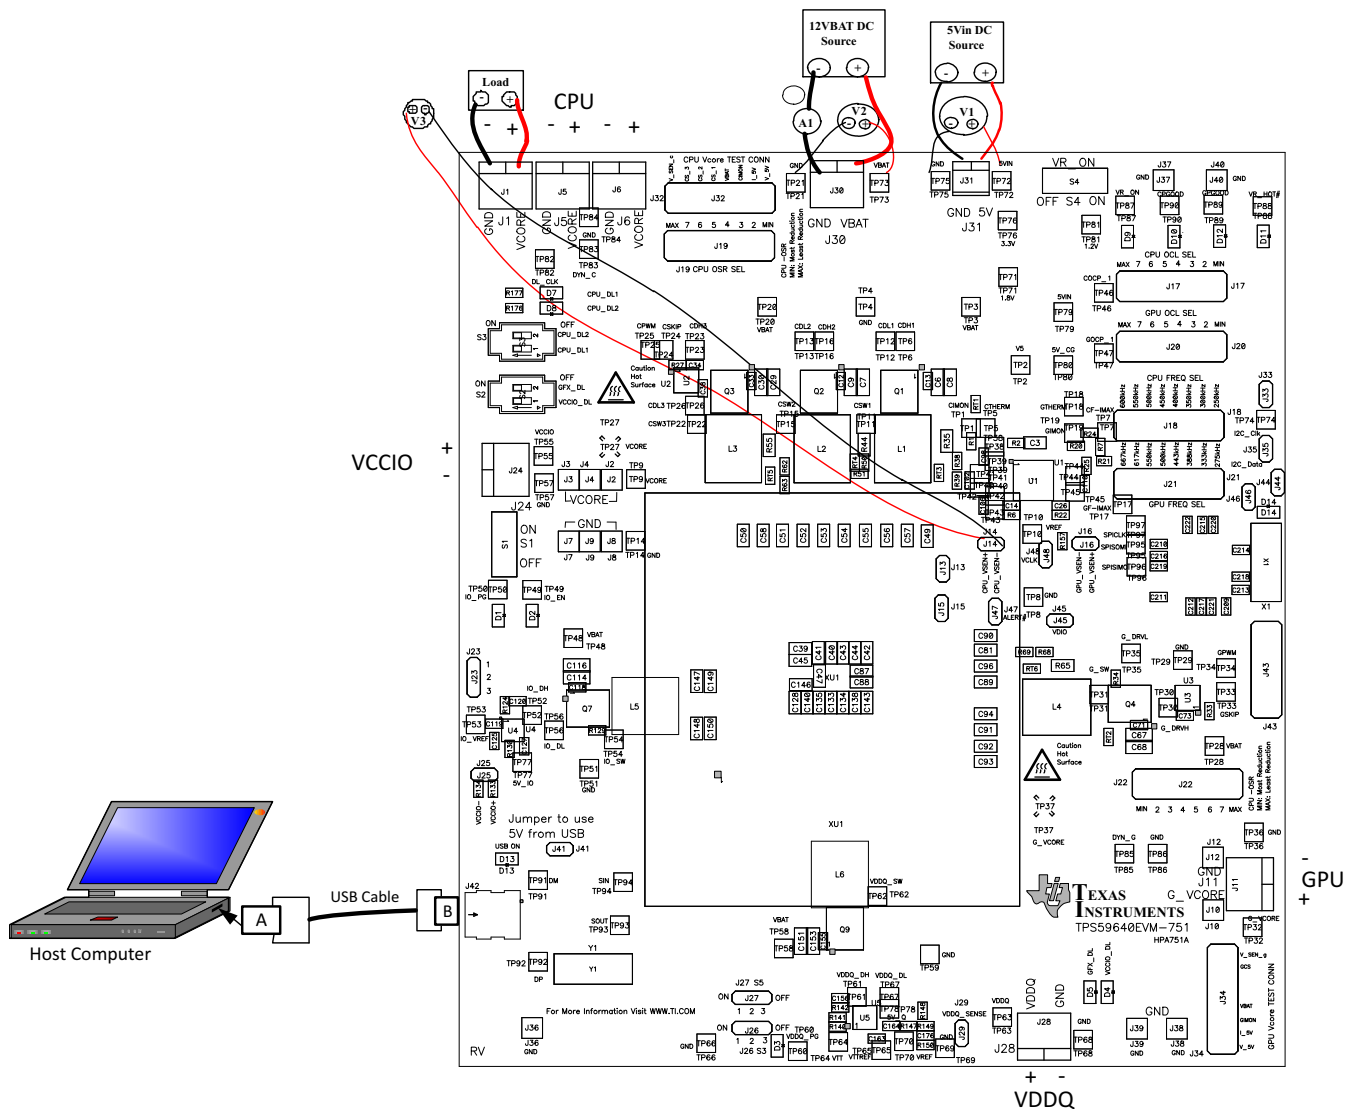

Figure 17. TPS59640EVM-751 Recommended Test Setup
**12VBAT DC Source:** The 12VBAT DC source must be a 0-V to 20-V variable DC source capable of supplying a 20-Adc current. Connect 12VBAT to J30 as shown in Figure 17.
**5Vin DC Source:** The 5Vin DC source must be a 0-V to 5-V variable DC source capable of supplying a 1-Adc current. Connect 5Vin to J31 as shown in Figure 17.
Figure 17 is the recommended test setup to evaluate the TPS59640EVM-751. Working at an ESD workstation, ensure that any wrist straps, bootstraps, or mats are connected referencing the user to earth ground before handling the EVM.
1. Prior to connecting the 5Vin DC source, it is advisable to limit the source current from 5 Vin to 1 A maximum. Make sure that 5Vin is initially set to 0 V and connected as shown in Figure 17.
2. Prior to connecting the 12VBAT DC source, it is advisable to limit the source current from 12VBAT to 10 A maximum. Make sure that 12VBAT is initially set to 0 V and connected as shown in Figure 17.
3. Connect voltmeters V1 at TP72 (5Vin) and TP75 (GND) to measure 5Vin voltage, V2 at TP73 (12 VBAT), and TP21 (GND) to measure 12VBAT voltage as shown in Figure 17.